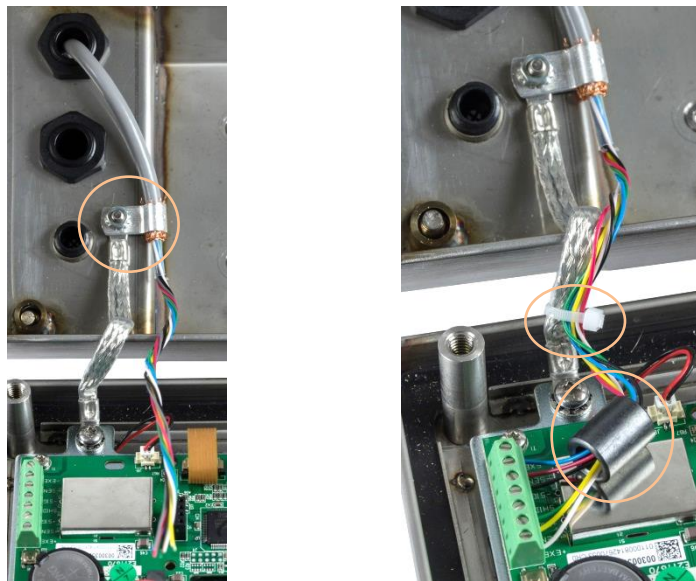

Figure 2-32: Analog Load Cell Cable Ferrite Installation and Chassis Grounding, IND236
21. Connect the grounding clip to the enclosure using the enclosure hinge attachment screw, as shown in Figure 2-32 (left).